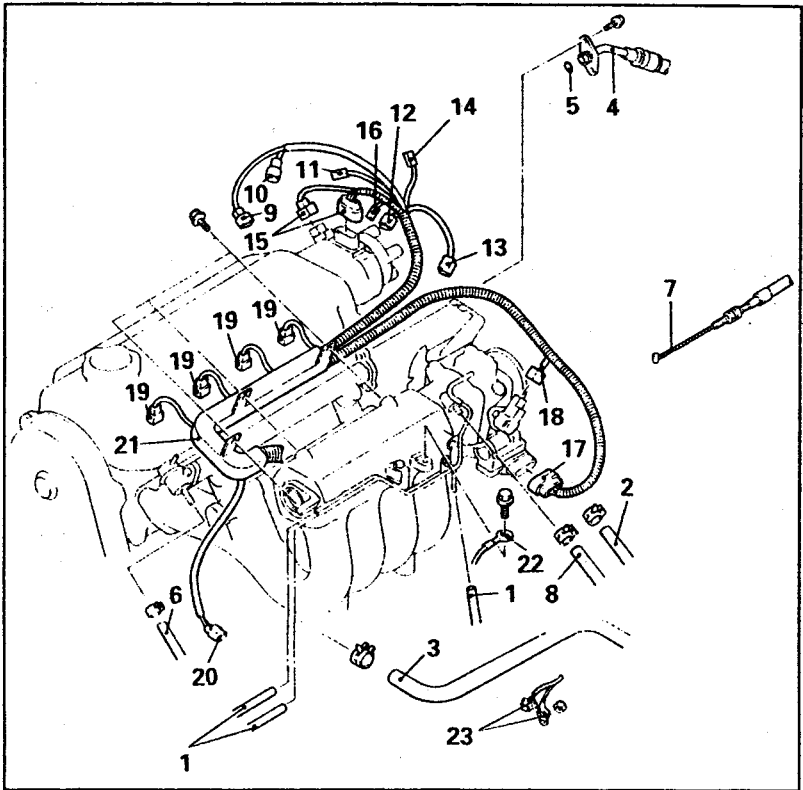

Fig. 1.1. — Order of removal of parts (engine removal, 1.8 litre, Space Runner).
- Refer to Fig. 1.1 for the following removal operations:
- Disconnect the vacuum hoses (1). In the case of a 2.0 litre engine there is one hose at the front of the engine and three more near the hose location (1) in Fig. 1.1.
- Disconnect the heater hose (2) between thermostat housing and heater unit and the vacuum hose from the brake servo unit. On the 2.0 litre engine three hoses are connected in this area. All three can be disconnected; one of the hoses is the heater hose between heater unit and water inlet pipe, the other one is the brake servo unit hose.
- Disconnect the heater hose between heater unit and water inlet pipe (3).
- Unscrew the fuel pressure hose (4) and take off the "O" sealing ring (5). The arrangement is similar on the 2.0 litre engine. Remember that the system must be free of pressure.
- Disconnect the fuel return hose (6) after slackening the hose clip.
- The next operation concerns the removal of the various plugs and connectors. These are the connectors for the engine coolant temperature switch (9), the oxygen sensor (Lambda probe) (10), the oil pressure switch (11), the coolant thermometer (12), the engine coolant temperature sensor (13), if fitted, the engine coolant temperature switch for the condenser fan (14), if an automatic transmission is fitted, the two plugs from the distributor (15), the condenser (16), the idle speed regulator (17), the